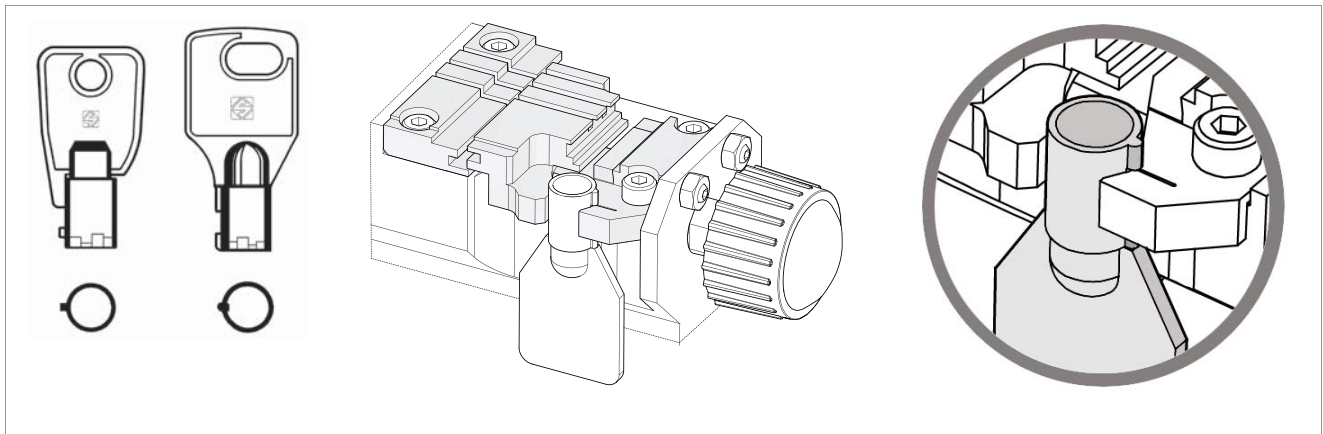

Fig. 51
- 5) Replace the safety guard (Y) and secure with the 6 screws (Y1) (Fig. 51).